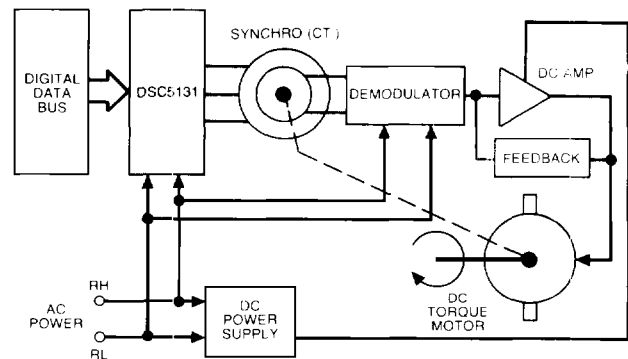

FIGURE 16 Digital Positioner Block Diagram
The DSC5131 can be used in a digitally controlled positioning system to command a shaft angle precisely to a desired position or to control the shaft angle in a complex series of movements. The block diagram for this application is shown in figure 16. The Digital Data Bus either statically or dynamically applies the desired angular data to the 5131 input which in turn provides a corresponding Synchro-format output to the Synchro. The Synchro in this application is a Control Transformer (CT), which is used to sense the shaft position. The output of the synchro is an ac voltage, the amplitude of which reflects the difference in the applied digital angle and the actual shaft angle (see "Driving Control Transformers" on page 8 of this data sheet). This ac error voltage is synchronously demodulated to reduce the effects of phase-shift and Synchro "quadrature" voltages while producing a dc error output. This dc error is applied to a dc power amplifier which drives a dc torque motor. In a direct drive system, with the dc motor armature and synchro rotor on the same shaft, they will turn together without any additional error or change in position normally caused by gearing. The torque motor rotates the shaft until the actual shaft angle equals the input digital